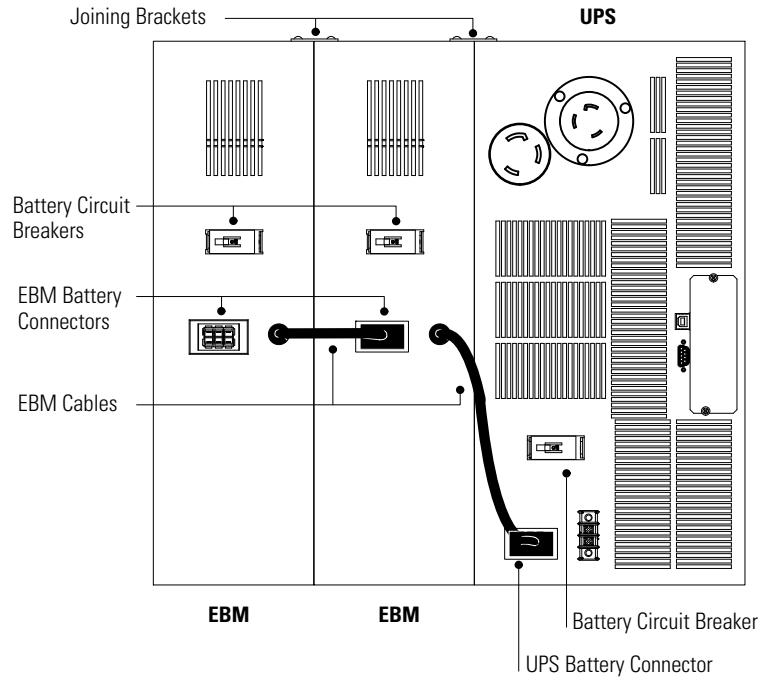

Figure 7. Eaton 9125 EBM Connections
1. Switch all battery circuit breakers to the OFF (O) position (see Figure 7).
7. Plug the new EBM into the UPS as shown in Figure 7.